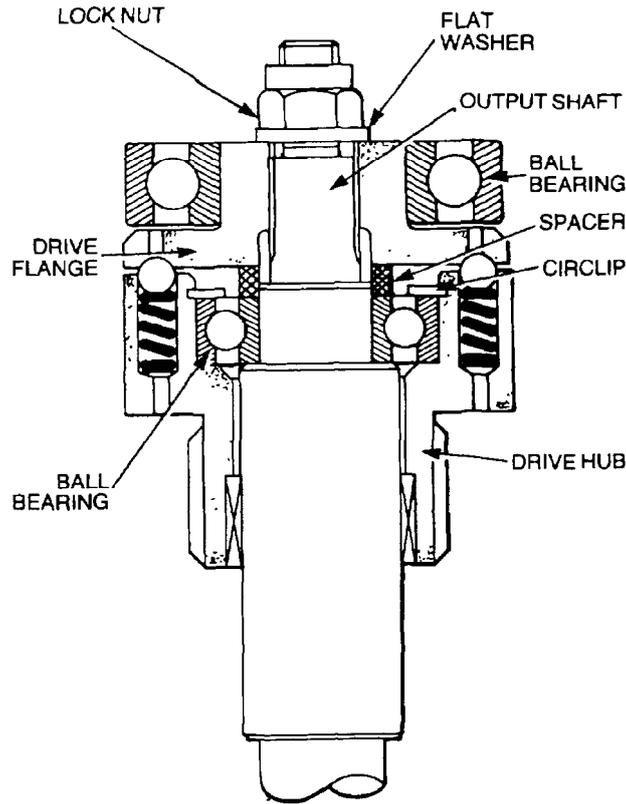

Figure 201 Installing the Torque Limiter on Output Shaft
- b.** Support the drive hub, press in the ball bearing and needle roller bearing and secure the ball bearing with the internal circlip (Figure 201).
- c.** Clamp the output shaft in the vice, ensuring that the soft-jawed clamps are fitted, thoroughly lubricate the drive hub and bearings with clean oil and install the drive hub (Figure 201).
- f. Assemble the spacer, drive flange, flat washer and a new locknut to the output shaft (Figure 201) and tighten the locknut to 60 N.m (44 lbf.ft).